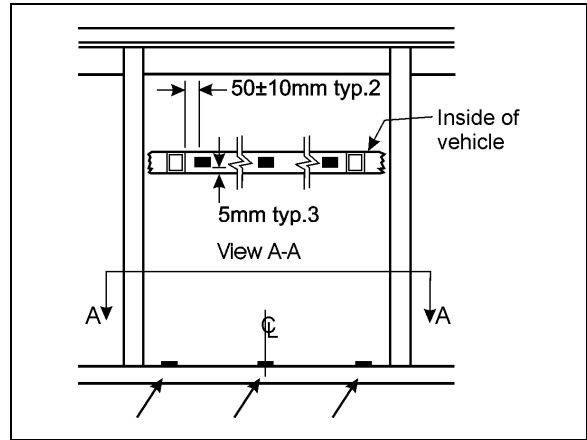

FIGURE 70: AWNING WINDOW - RUBBER BUMPER INSTALLATION
- Glue on the structure horizontal member, 3 rubber bumpers (#790597) (see FIGURE 70) [50mm≈2"].